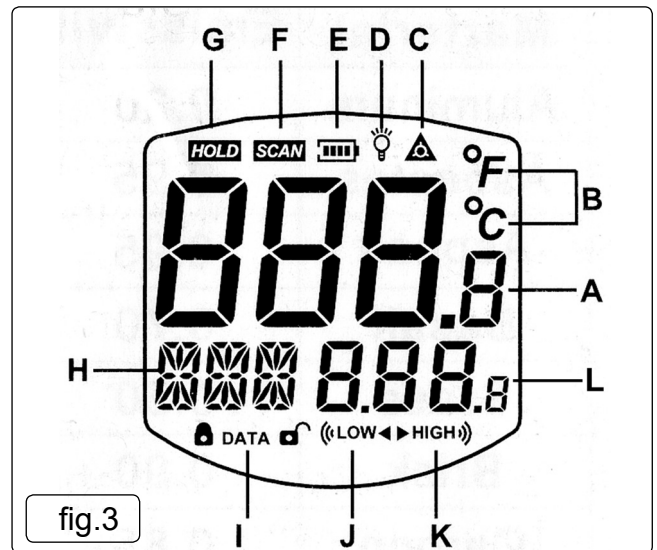

fig.3
4.2. LCD DISPLAY (FIG.3)
- 1 - **Trigger.** Press to switch thermometer on. Press and hold to scan. The Temperature Reading (fig.3.A) and the Scanning icon (fig.3.F) will show on the LCD display. When the trigger is released, the last recorded Temperature Reading (fig.3.A) and the Data Hold icon (fig.3.G) will show.
- 2 - **Laser/Backlight Button.** Press to operate the laser and the backlight. When the laser is on, the Laser On icon will show (fig.3.C). When the backlight is on, the Backlight On icon will show (fig.3.D). The backlight will only operate continually for 10 seconds.
MAX mode - will display the maximum temperature measured on the Set/Record Value Indicator (fig.3.L) during a single scan.
MIN mode - will display the minimum temperature measured on the Set/Record Value Indicator (fig.3.L) during a single scan.
DIF mode - will display the difference between the highest and lowest measurements on the Set/Record Value Indicator (fig.3.L) during a single scan when the SET button (fig.4.4) is pressed.
AVE mode - will display the average reading measured on the Set/Record Value Indicator (fig.3.L) during a single scan.
HAL - High Temperature Alarm. Use the arrow buttons (fig.4.5) to set a high temperature alarm reading on the Set/Record Value Indicator (fig.3.L) and enter using the SET button (fig.4.4). When the pre-set temperature is exceeded during scanning, HIGH will show on the LCD display (fig.3.K) and the audio alarm will sound.
LAL - Low Temperature Alarm. Use the arrow buttons (fig.4.5) to set a low temperature alarm reading on the Set/Record Value Indicator (fig.3.L) and enter using the SET button (fig.4.4). When the pre-set temperature is exceeded during scanning, LOW will show on the LCD display (fig.3.J) and the audio alarm will sound.
STO - Data Storage. Press the STO button (fig.4.6) and then the SET button (fig.4.4), the data storage/read icon (Fig.3.I) will show on the LCD display and 1--- will show in the Set/Record Value Indicator (fig.3.L). To store the reading, press the STO button (fig.4.6) and the Set/Record Value Indicator (fig.3.L) will show 2---, ready for the next reading to be stored. There are 12 groups available in the thermometer memory. Data can be recalled in normal measuring mode by pressing the STO button (fig.4.6). To clear the memory press and hold the STO button (fig.4.6) for 3 seconds.
EMS - Emissivity set-up mode. Use the arrow buttons (fig.4.5) to alter the emissivity setting displayed in the Set/Record Value Indicator (fig.3.L). Press the SET button (fig.4.4) to confirm selection. The default setting for EMS is 0.95.
5.5.2. Pull and hold the trigger (fig.4.1) to turn the meter on and begin measuring. The Scanning icon (fig.3.F) and the Temperature Reading (fig.3.A) will show on the LCD display.
a) Push the Laser/Backlight button (fig.4.2) to turn on the laser pointer. When the laser is 'on' the Laser On icon (fig.3.C) will appear on the LCD display. Aim the beam approximately 16mm above the point of test. (To turn the pointer 'off' press the Laser/Backlight button again.)
5.5.4. Once the trigger has been released the information on the LCD display will remain for 30 seconds before the unit automatically switches off. (Whilst the information remains on the LCD display the Data Hold icon (fig.3.G) will be displayed).